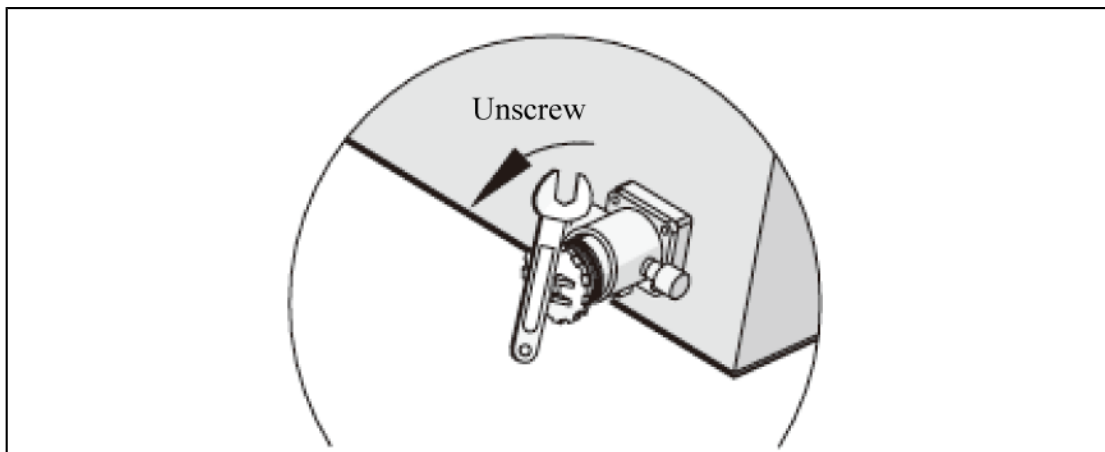

Figure 6-9 Unscrew the hydraulic filter end cap
5. When unscrew or screw the end cap of oil filter, only insert a wrench into the slot in the middle of the oil filter end cover and pull, as shown in **Figure 6-9**.